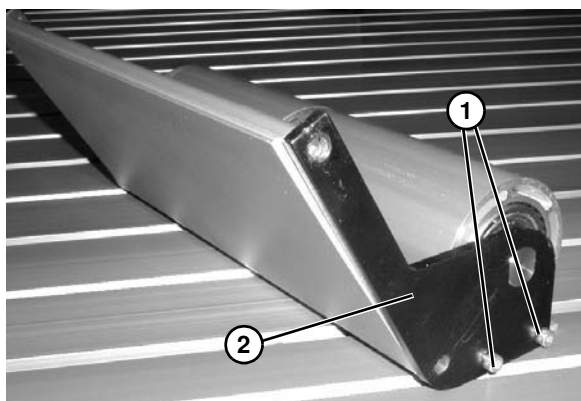

Figure 162
4. Remove screws (**Figure 162, item 1**) and idler guide side plate (**Figure 162, item 2**).